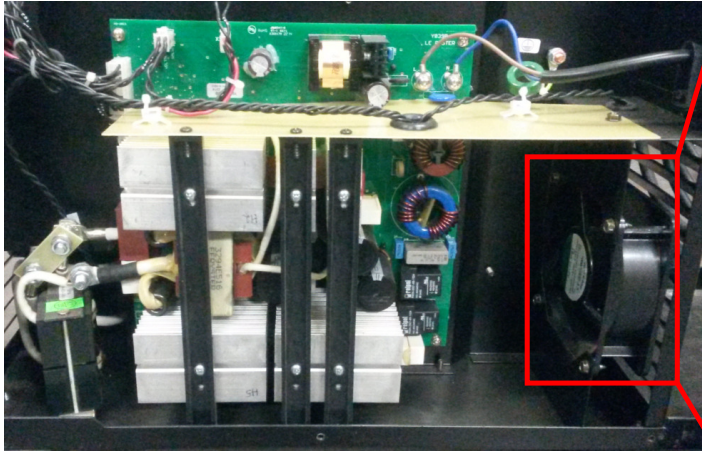

Figure 1
3. Locate the fan on the back side of the machine. **See Figure 1**